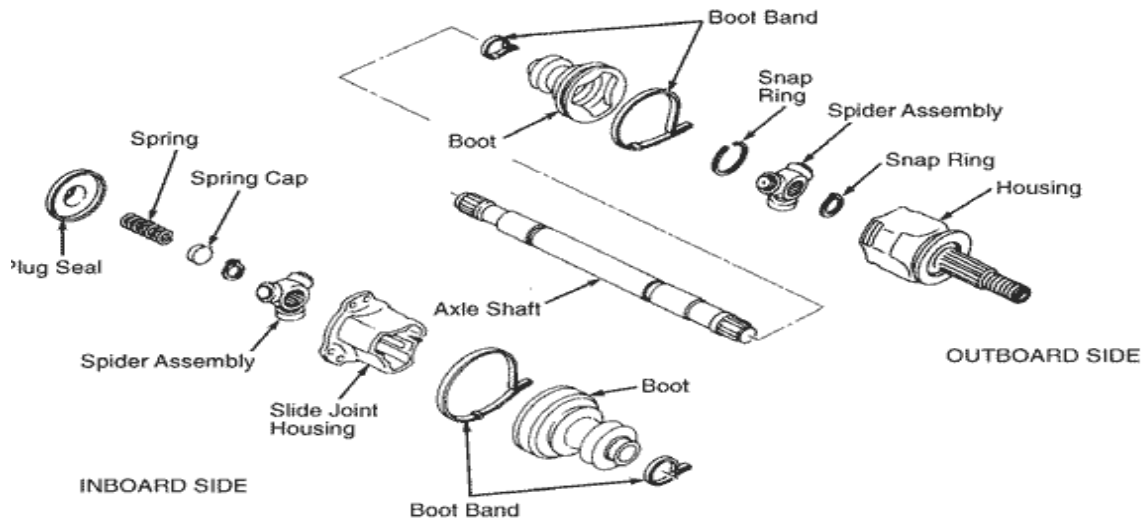

Figure Q2[c]
- Q2. SK Company produces components for automotive industries. The shop floor consists of various machines ranging from lathe, milling, drilling, cutting and heat treatment facilities. The machines are conventional and fully computer numerical control (CNC). Usually for conventional machines take 1200 seconds and the CNC machines take 180 seconds for tools set-up. For machining time, generally the CNC machines will require half of the time needed for conventional machines for fabricating the part. The shaft needs to be heat treated. Quenching time requires 90 seconds to be completed. The company has just won a contract from an Original Equipment Manufacturer (OEM) for assembling a component as shown in Figure Q2. Therefore, the management has decided to fabricate the axle shaft in house and the rest of the components will be bought from various suppliers. Therefore as a process engineer at the company you have given the following tasks to complete:**
- [a] From the process planning perspective what would be the procedure that needs to be considered when drafting the process planning for the component shown in Figure Q2.**
- [b] Develop a detail process planning for fabricating the axle shaft as shown in Figure Q2.**